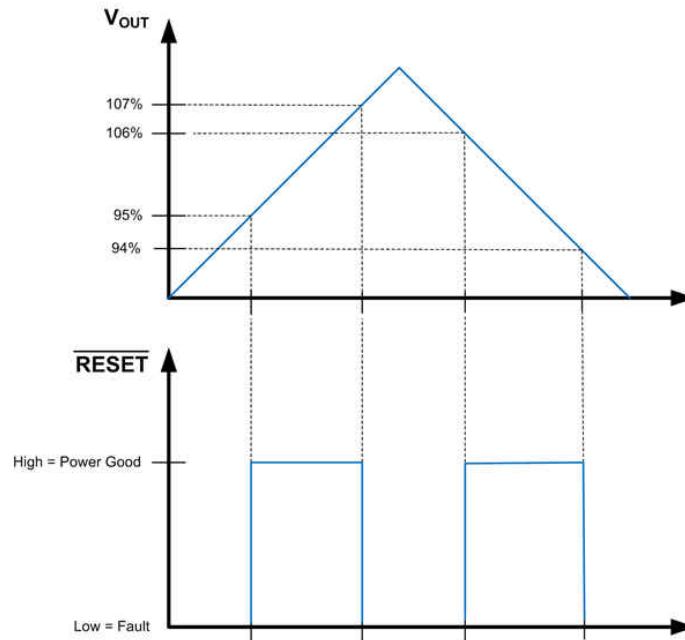
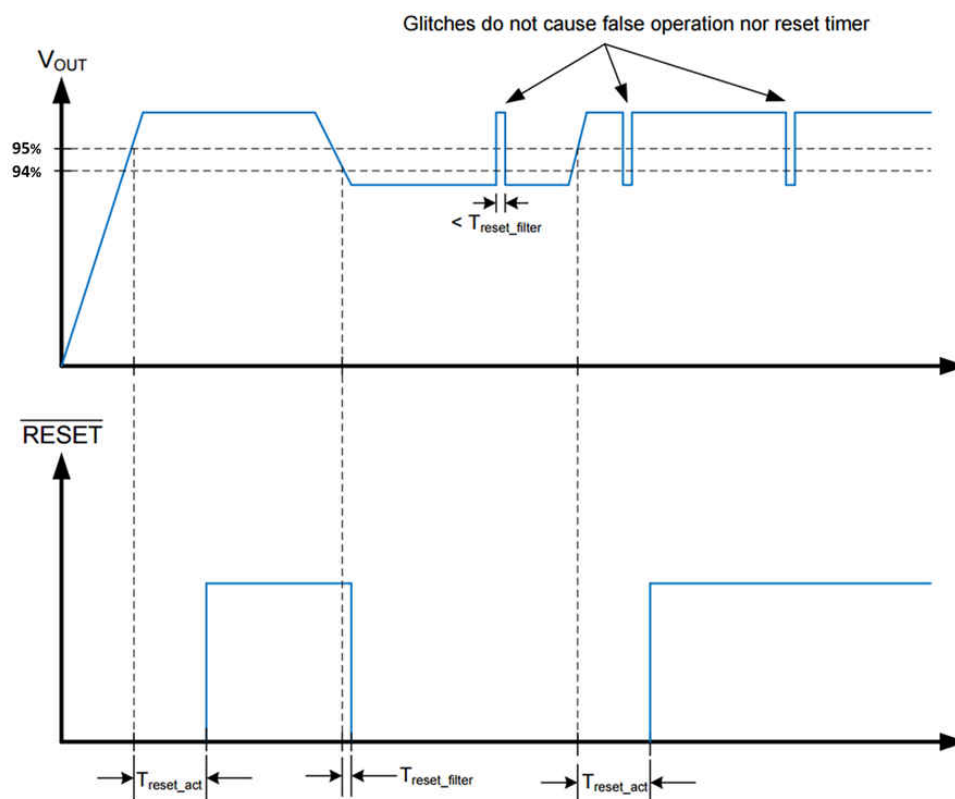

图 8-2. Static RESET Operation
图 8-3. RESET Timing Behavior
The RESET function, built into the LM53625/35-Q1, has special features not found in the ordinary Power-Good function. A glitch filter prevents false flag operation for short excursions in the output voltage, such as during line and load transients. Furthermore, there is a delay between the point at which the output voltage is within specified limits and the flag asserts Power Good. Because the RESET comparator and the regulation loop share the same reference, the thresholds track with the output voltage. This allows the LM53625/35-Q1 to be specified with a 96.5% maximum threshold, while at the same time specifying a 94 % worst case threshold with respect to the actual output voltage for that device. This allows tighter tolerance than is possible with an external supervisor device. The net result is a more accurate Power-Good function while expanding the system allowance for transients, and so forth. RESET operation can best be understood by reference to Figure 8-2 and Figure 8-3. The values for the various filter and delay times can be found in Section 7.7. Output voltage excursions lasting less than  $T_{\text{RESET-filter}}$  do not trip RESET. Once the output voltage is within the prescribed limits, a delay of  $T_{\text{RESET-act}}$  is imposed before RESET goes high.
- A delay has been added for release of reset. See 图 8-2 and 图 8-3 for more detail.